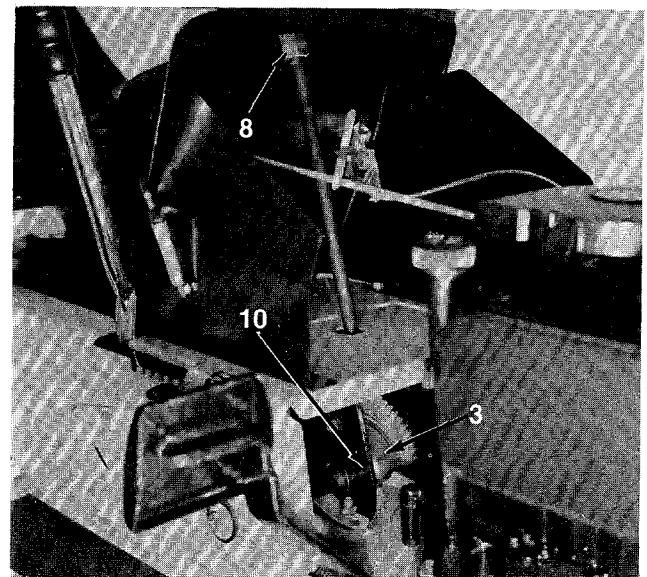

FIGURE 15.
3. **Steering Gears.** Lubricate the two gears with automotive multi-purpose grease once a season. See figure 15.
8. **Steering Column Bearings (2).** Oil once a season with SAE 30 oil. See figure 15.
10. **Steering Shaft Bearings (2).** Requires no lubrication. See figure 15.